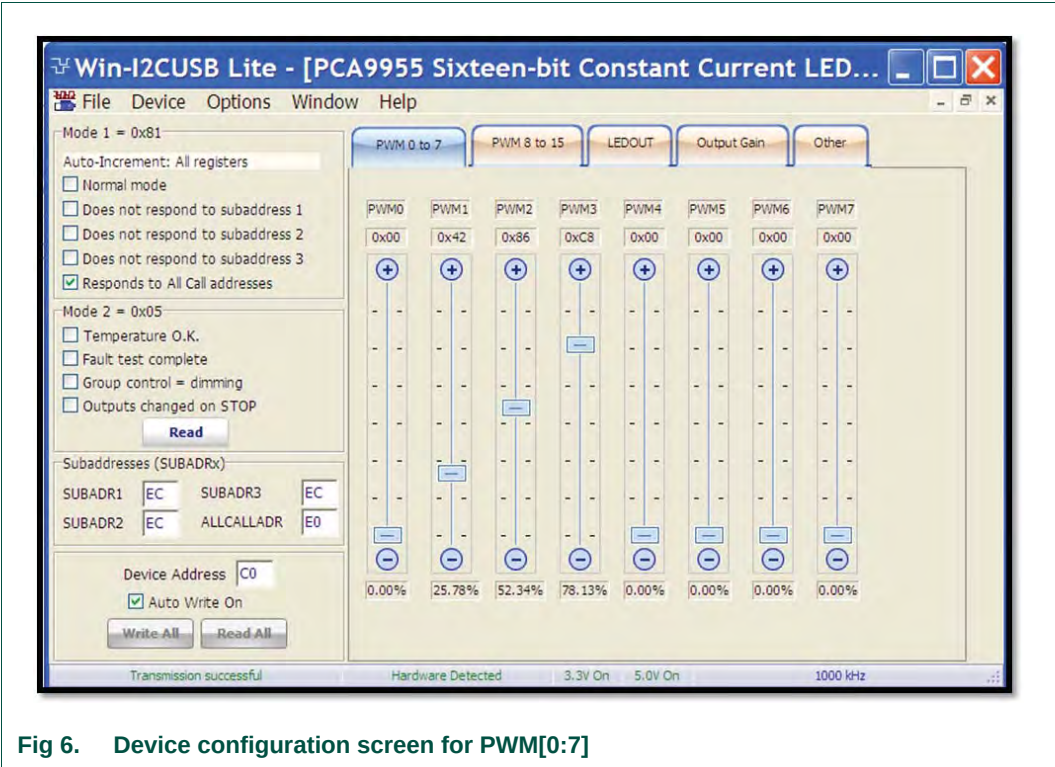

Fig 6. Device configuration screen for PWM[0:7]
- 'PWM 0 to 7' individual brightness control for LED0 to LED7 as shown in Figure 6.
- 6. Click the ‘PWM 0 to 7’ configuration screen and move the PWM1 (red) PWM2 (green) PWM3 (blue) bars for color mixing (see Figure 6).